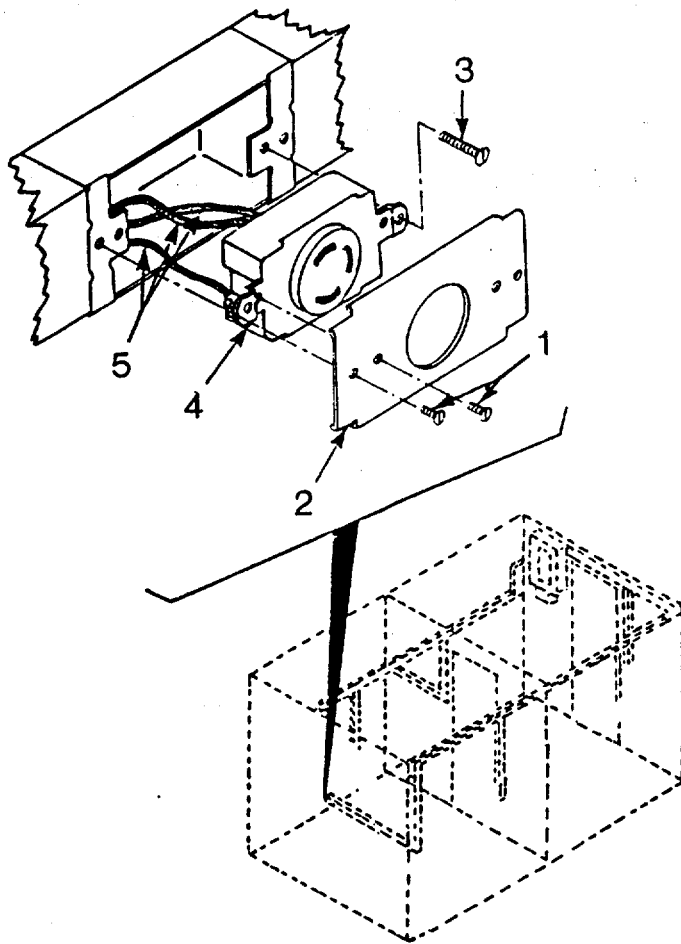

Figure 4-56. 110 Volt, 3 Prong Air Conditioner Receptacle
- (2) 110 Volt, 3 Prong Air Conditioner Receptacle. (See Figure 4-56.)
- (a) Remove receptacle screws (1) and cover (2).
- (b) Remove receptacle screws (3).